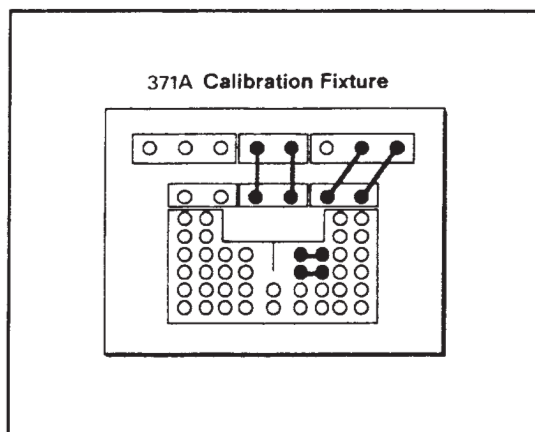

Figure 4-24. Setup for measuring maximum pulse amplitude accuracy.
13. Connect the patch cords as shown in Figure 4-24.
14. Set the STEP/OFFSET AMPLITUDE, HORIZONTAL VOLTS/DIV STEP GEN, and load resistor as indicated in the first row of Table 4-23. (The load resistor shorting bars are correctly placed for a 75 Ω load in Figure 4-24.)